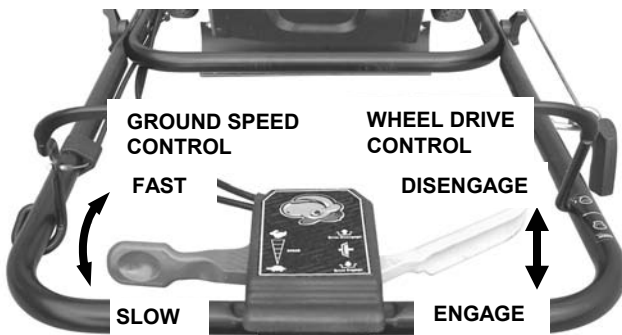
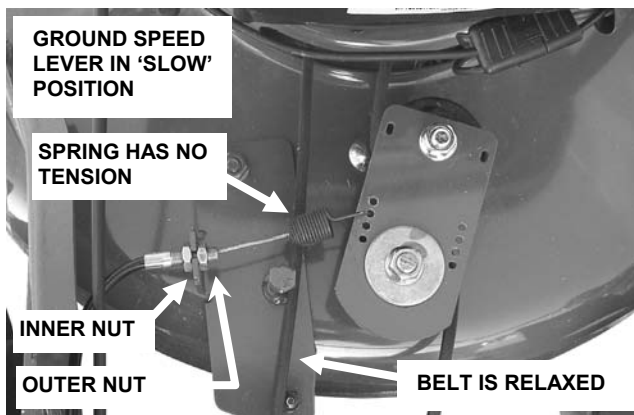
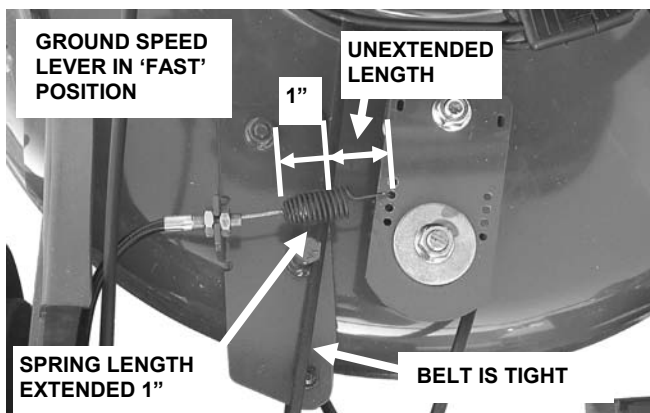

FIGURE 4.4
FIGURE 4.6
FIGURE 4.7
The wheel drive control lever should engage the transmission when the lever is squeezed back against the handlebar, and disengage the transmission when the lever is released. See Figure 4.4.
2. With wheel drive control lever in 'DISENGAGE' position (see Figure 4.4), spring on end of wheel drive control cable should have no tension. Measure overall length of unextended spring. See Figure 4.5.
- a. With lever in 'SLOW' position (see Figure 4.4), belt is relaxed, and idler spring on end of ground speed control cable has no extension. See Figure 4.6.
- b. With lever in 'FAST' position (see Figure 4.4), belt is tight, and idler spring on end of ground speed control cable is extended approx. 1". See Figure 4.7.
Loosen outer nut on end of ground speed cable, and run inner nut in toward cable (clockwise) or out from cable (counterclockwise) by 1/2 turn increments until correct adjustments are attained. See Figure 4.6. Be sure to tighten outer nut.
2. Place ground speed control lever in 'SLOW' position. See Figure 4.4.